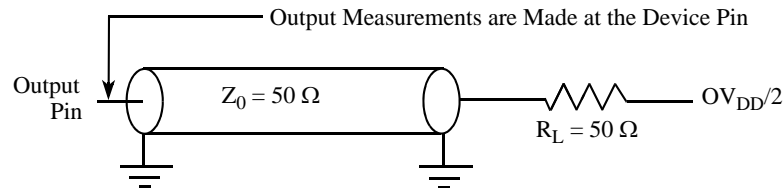

Figure 13. AC Test Load for the Tsi107
3. All output timings assume a purely resistive 50- Ω load (see Figure 13). Output timings are measured at the pin; time-of-flight delays must be added for trace lengths, vias, and connectors in the system.
5. PCI hold times can be varied; see Section 1.4.2.4, “PCI Signal Output Hold Timing,” for information on programmable PCI output hold times. The values shown for item 13a are for PCI compliance.
Figure 13 shows the AC test load for the Tsi107.
- Input clock low and high periods in combination with the FDR value in the frequency divider register (I2CFDR) determine the maximum I²C input frequency. See Figure 13.